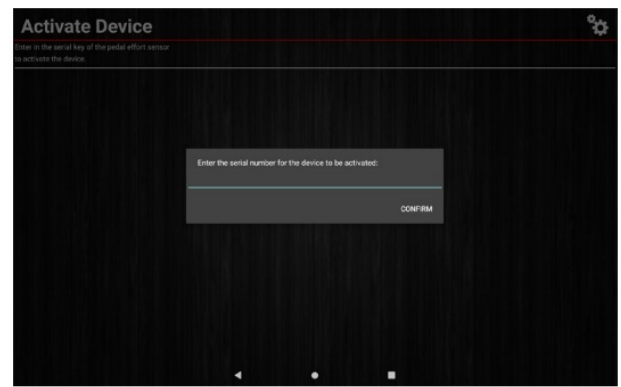

Figure 49
5. Enter the Serial Number of the device to be activated. (Figure 49)